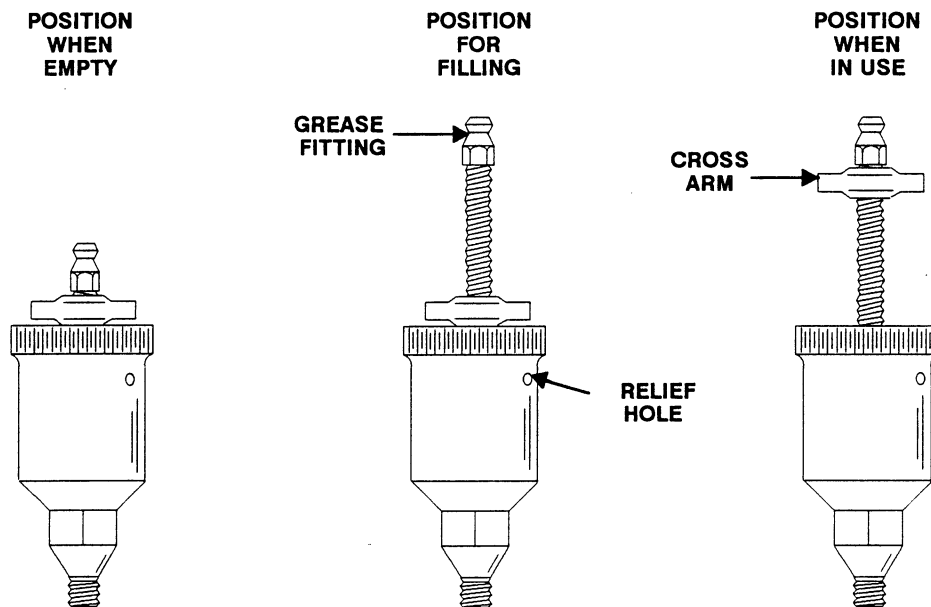

Figure 8. Automatic Lubricating Grease Cup
Fill the grease cup (17) through the grease fitting with No. 2 lithium base grease until grease escapes from the relief hole. Turn the grease cup arm counter-clockwise until it is at the top of the stem; this will release the spring to apply grease to the seal (see Figure 8).